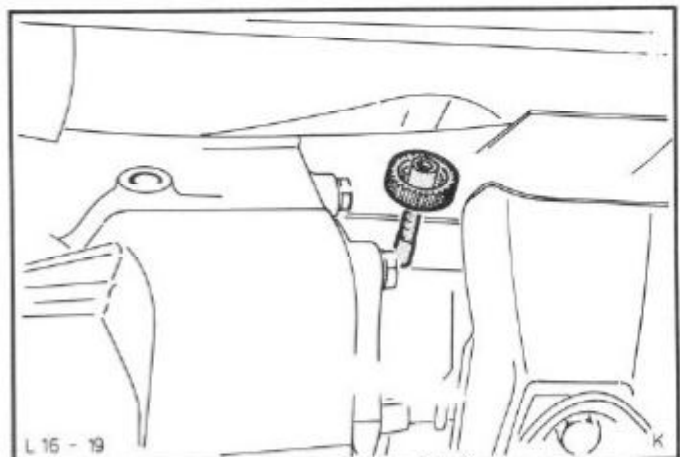

Fig.157. Withdraw the drive pinion.
4. Remove the cover over the speedometer drive pinion and remove the drive pinion, Fig.157.